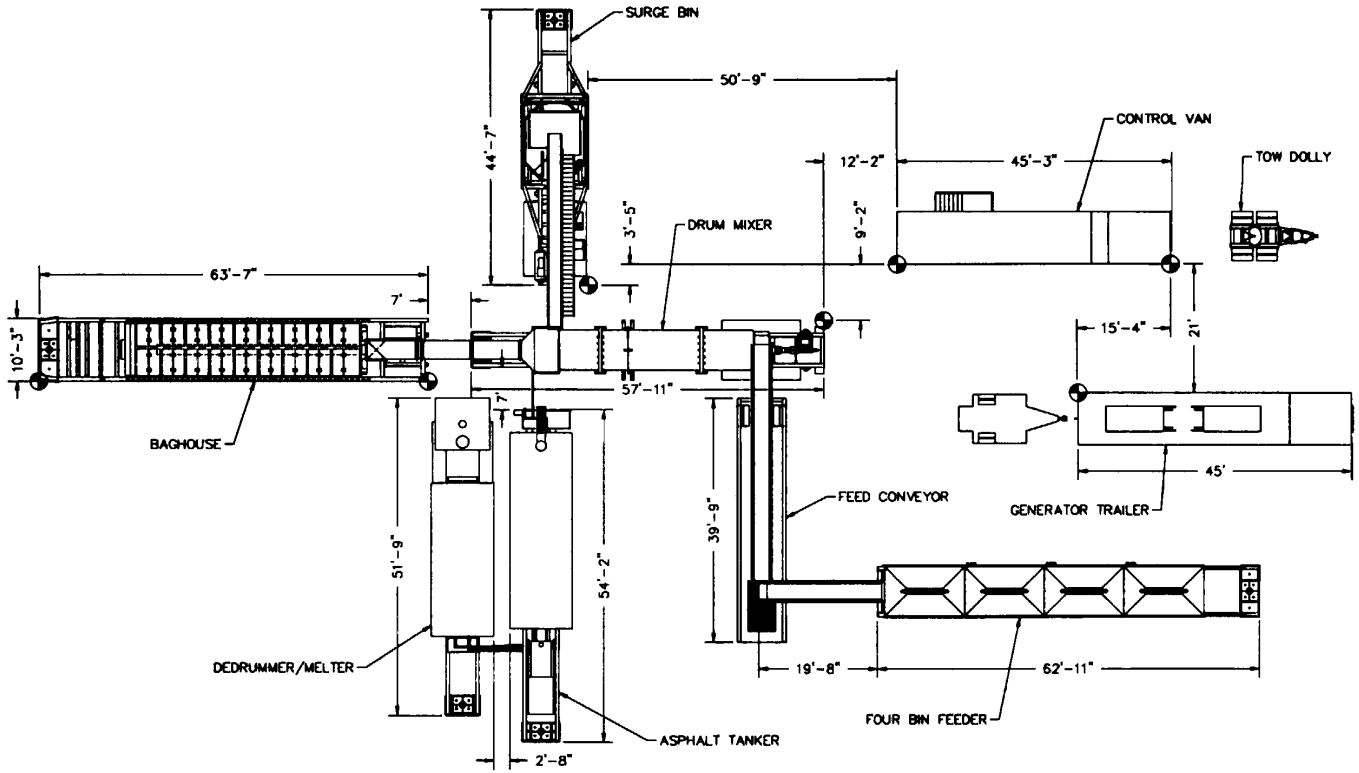
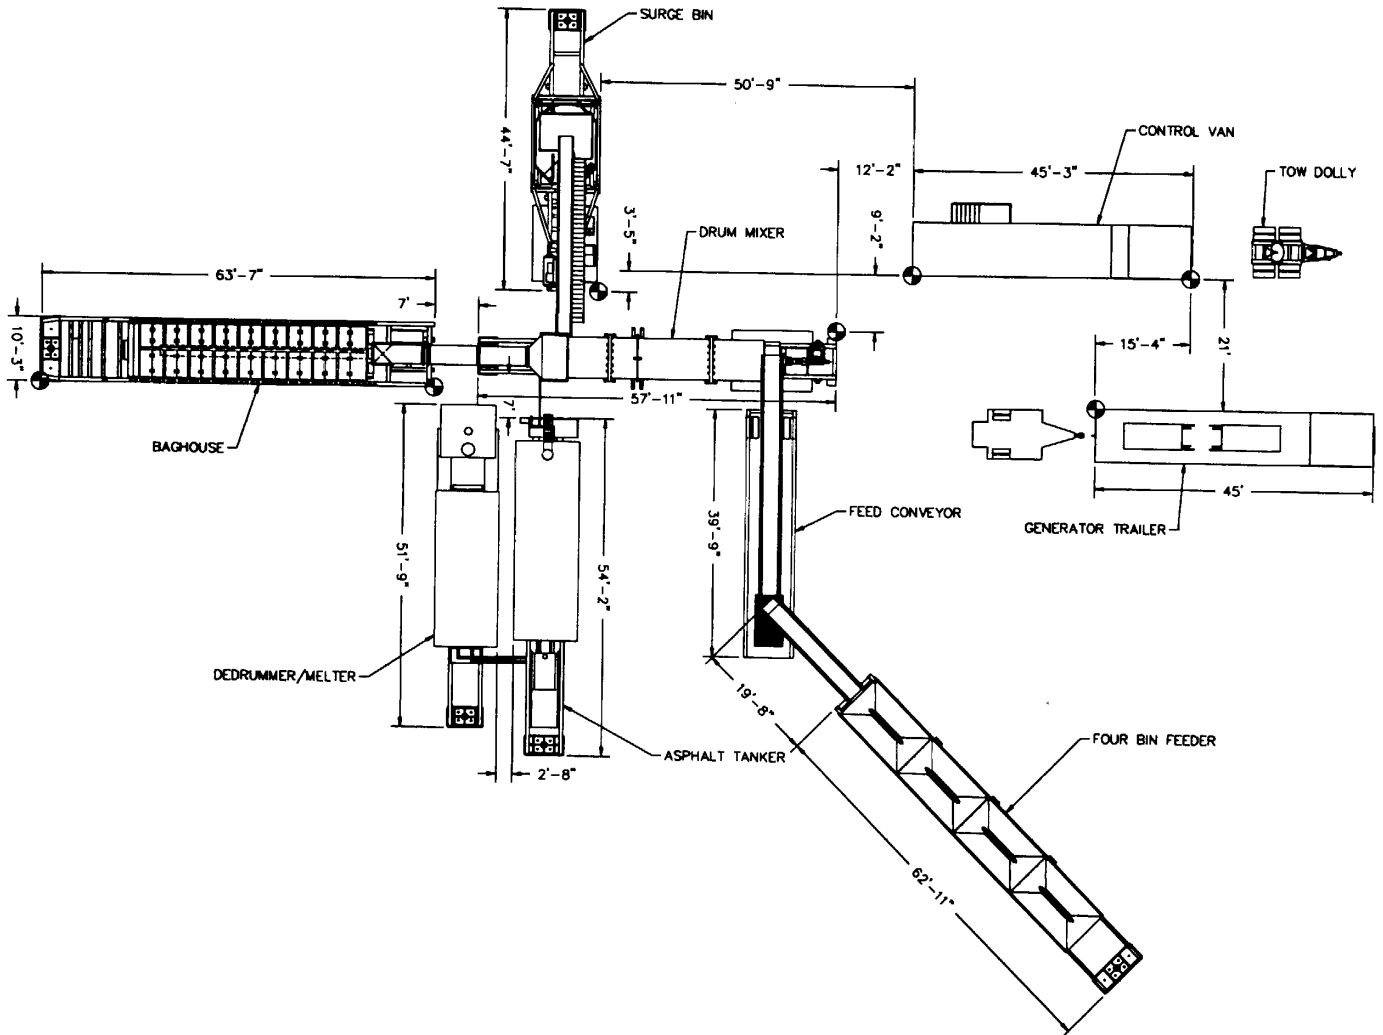

Figure 2-1. Plant Site Layout
Figure 2-2. Alternate Plant Site Layout
**A plant site layout figure 2-1 is included as is an alternate plant site layout figure 2-2.
Position the Control Van according to the site layout that has been determined. This trailer is used to position the generator trailers. Measure from the control van according to Figure 2-1 or 2-2. Keep the Control Van parallel to both generator trailers.
(See Figures 2-1 and 2-6)
(See Figures 2-1, 2-5 and 2-6)
(See Figures 2-1 and 2-7)
**(See Figures 2-1, 2-8, 2-9, 2-10 and 2-11)**
The Surge Bin should be staked prior to positioning it. Site along the right hand side of the Control Van and measure the correct distance to the Surge Bin according to the Layout Figure 2-1. Stake the rear corner of the Surge Bin. This trailer can be positioned. Keep the Surge Bin at a right angle to the Control Van.